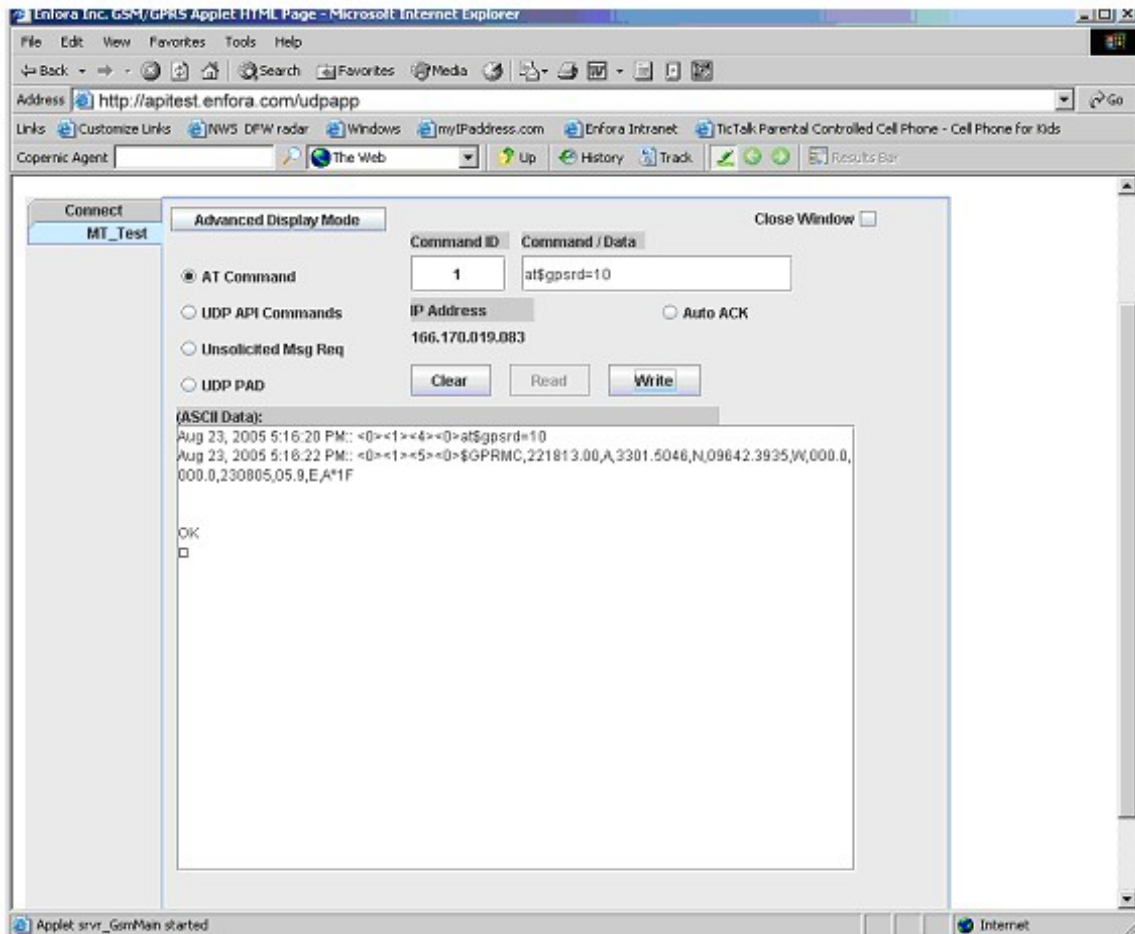

Figure: 24 - Wakeup Messages
3. Select the tab with the device name. (In this diagram it is labeled "MT_Test") Within approximately 60 seconds the wakeup messages should be seen in the window See Figure: 24 - "Wakeup Messages"